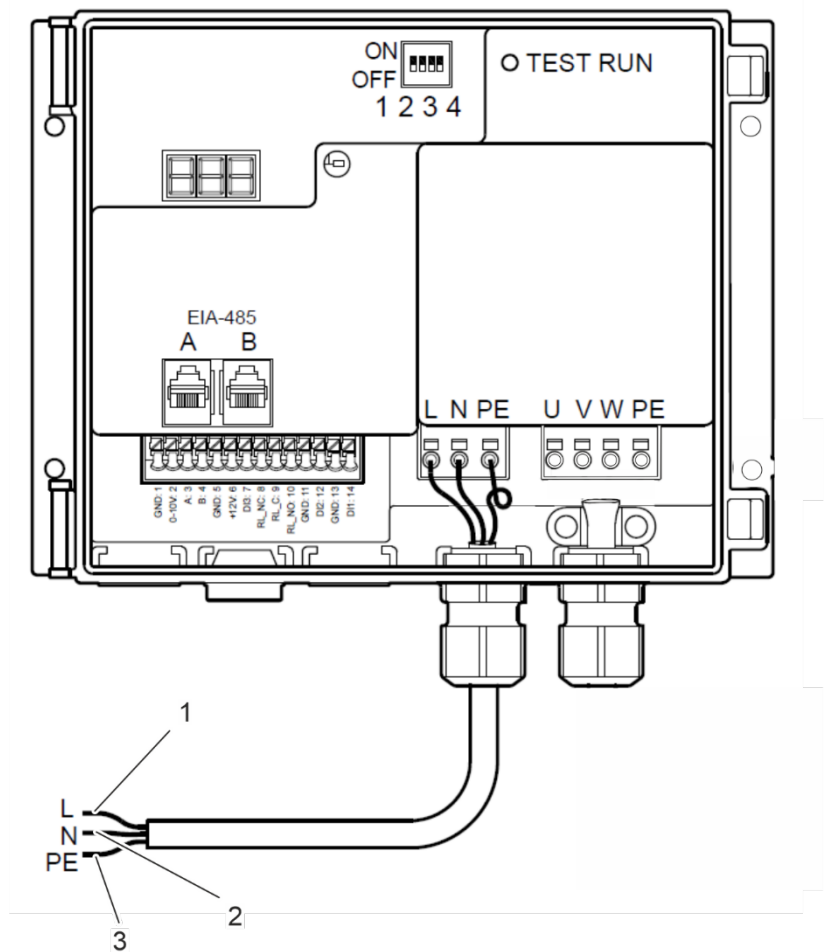

Fig. 97: Power supply wires
9. Connect phase wire (Fig. 97/1), neutral wire (Fig. 97/2) and protective wire (Fig. 97/3) to the voltage source.